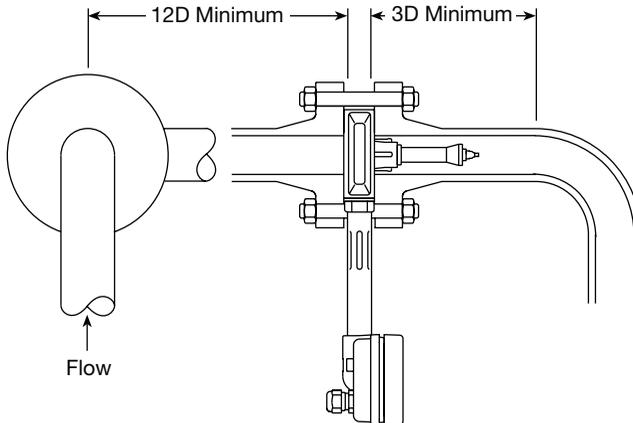

**Fig. 10**
**Note:** See Figures 10 to 13 for other considerations which need to be noted before determining the correct installation location.
The TVA flowmeter normally only requires a minimum of 6 pipe diameters upstream and 3 downstream of clear straight pipe. These dimensions assume a measurement from a single 90° bend (see Figure 10).